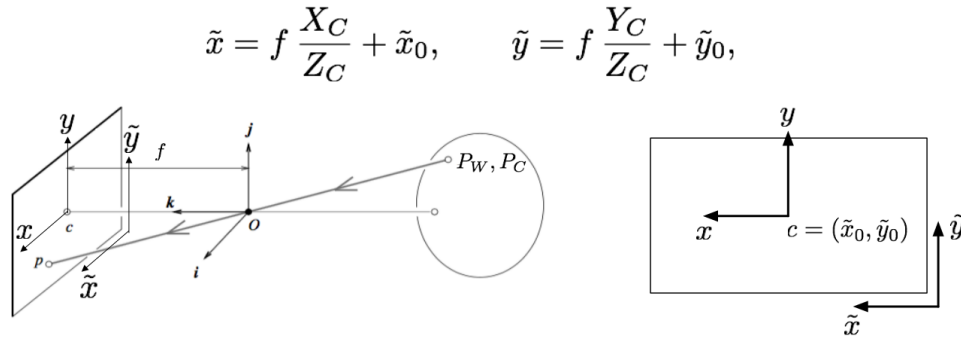

Figure 7: Projecting a point from pixels to camera frame
-  Given the focal lengths and principal points, edit `project_pixel_to_ray` in `detector.py` to compute the ray/direction (as a unit vector) of the stop sign in the camera's frame of reference. You may find Figure 7 helpful (note that in our case  $u$  in the code would be  $\tilde{x}$  in the diagram,  $cx$  in the code would be  $\tilde{x}_0$  in the diagram and that we have different focal lengths for each axes of this camera).